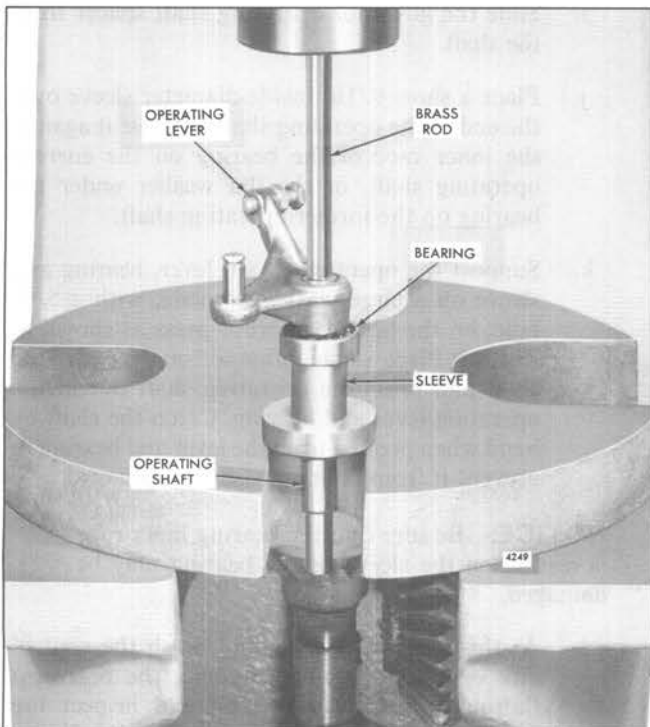

Fig. 15 – Removing Operating Lever and Upper Bearing from Operating Shaft
- k. Support the operating shaft, lever, bearing and sleeve on a large washer or plate, with a 5/8" hole, on the bed of an arbor press as shown in Fig. 15. Place a small brass rod on the end of the shaft and press the operating shaft out of the operating lever and bearing. Catch the shaft by hand when pressed from the lever and bearing to prevent it from falling and being damaged.